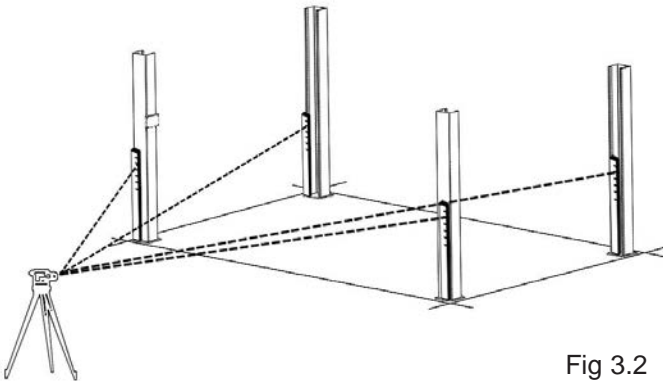

Fig 3.2
2. To estimate the shim requirements, place a target on floor at each Column position and record the readings. Find the highest of the four locations then find the difference between each of the remaining Columns. This difference is the estimated amount of shim thickness that will be required at each Column. (See Fig. 3.2)